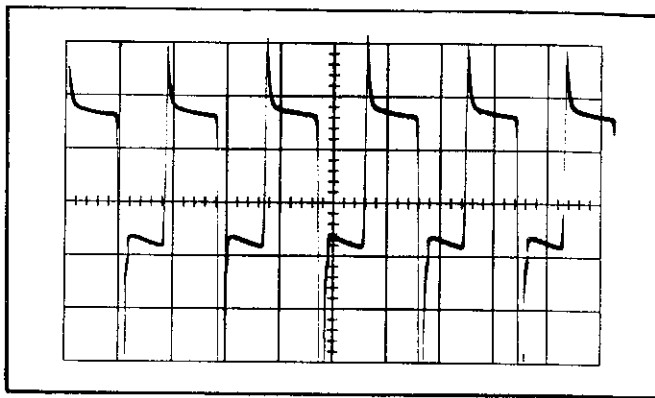

Fig. 2-2. Chopped waveform display.
- Adjust the oscilloscope triggering controls for a stable chopped waveform display (Fig. 2-2).